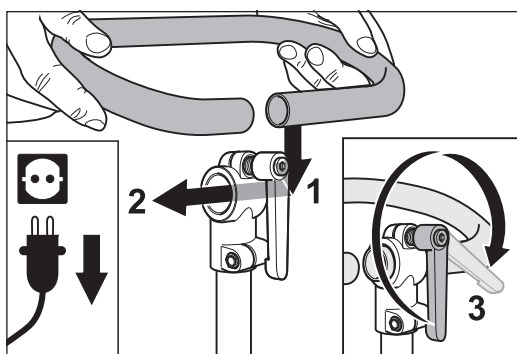

Fig. 12 Inserting the handlebar into the clamping piece **of the extension** (1 + 2) and tightening the clamping lever (3).
- 2 Insert the long straight end of the handlebar into the clamping piece **of the extension** (fig. 12, 1 + 2) and tighten the clamping lever firmly. (fig. 12, 3).